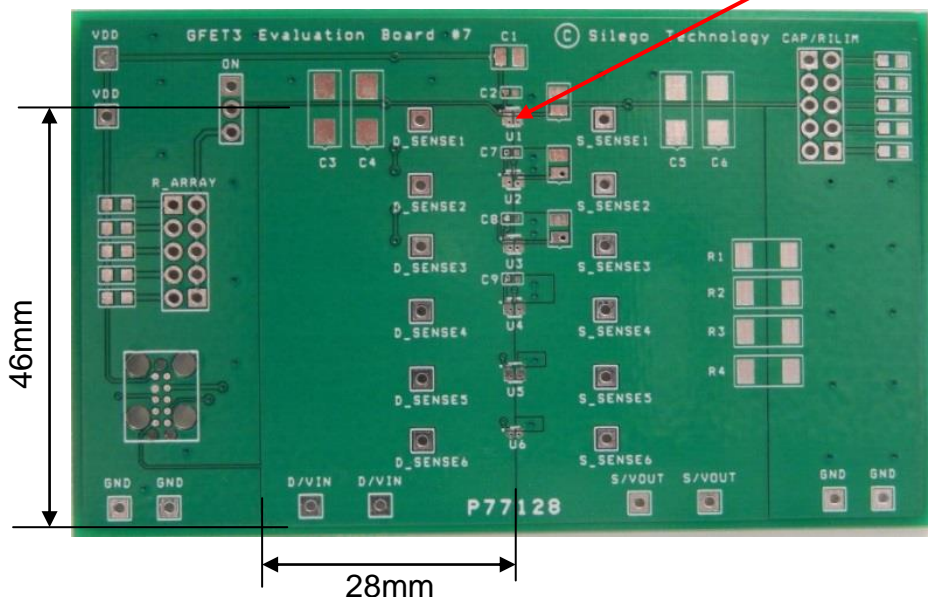

Figure 3. SLG59M1448V Evaluation Test Board
2.3. The D/VIN and S/VOUT pins carry significant current. Please note how the D/VIN and S/VOUT pads are placed directly on the power planes in Figure 3, which minimizes the Rds(ON) associated with long, narrow traces. The D/VIN, S/VOUT and GND pins dissipate most of the heat generated during high-load current condition. The layout shown in Figure 3 is illustrating a proper solution for heat to transfer as efficiently as possible out of the device.